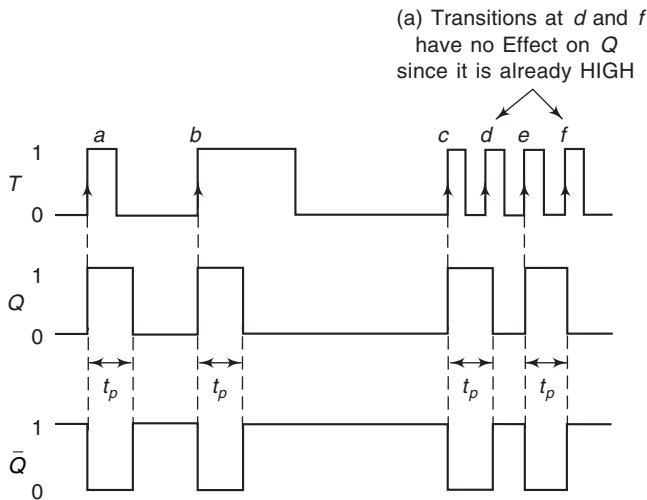

Fig. 12.59 Typical Waveforms for Non-retriggerable Operation.
The waveforms in Fig. 12.59 illustrate the operation of a *non-retriggerable OS* that triggers on positive-going transitions (PGTs) at its trigger (T) input. Note that